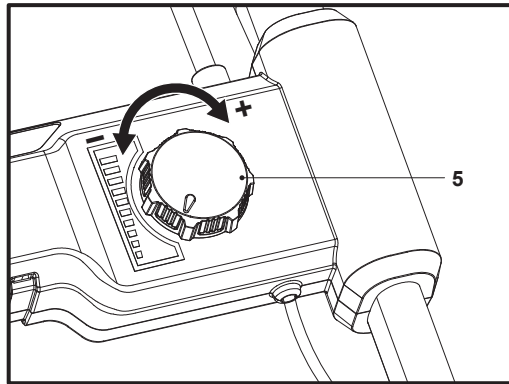

Fig. 18
The wheel driving speed can be adjusted by turning the speed dial (5) (Fig. 18).
1. Turn the speed dial (5) clockwise to increase the wheel driving speed;
2. Turn the speed dial (5) anti-clockwise to decrease the wheel driving speed.